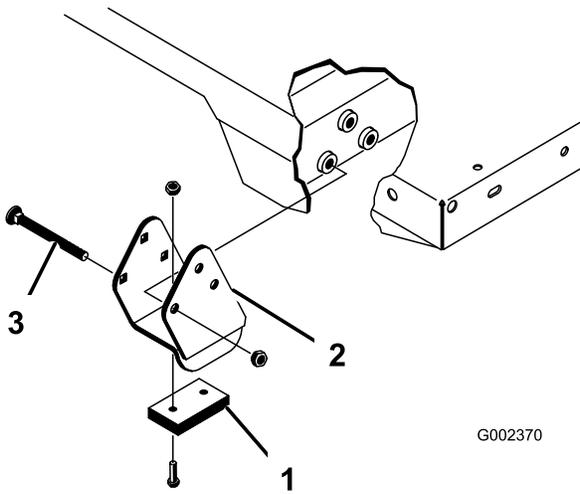

Figure 35
**Note:** Ensure that the spacer brackets and wear blocks (Figure 35) are installed with the carriage-bolt heads positioned inside the machine.
2. Carefully set the bed onto the machine frame, aligning the rear bed pivot-plate holes with the holes in the rear frame channel and install 2 clevis pins and lynch pins (Figure 35).
4. Insert the clevis pin from outside of the bed with the lynch pin toward the outside (Figure 35).